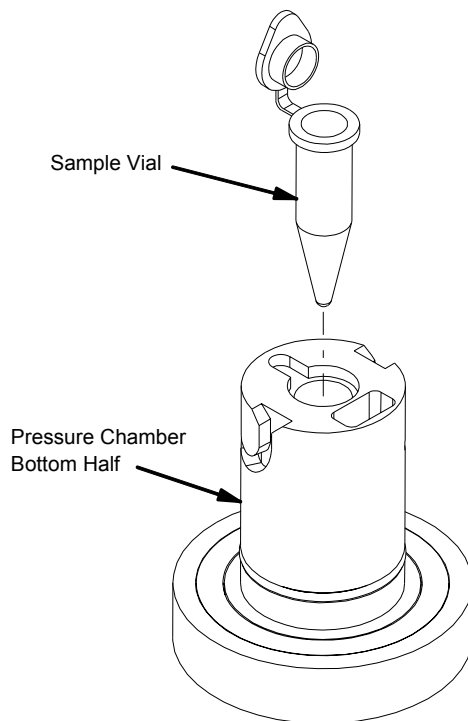
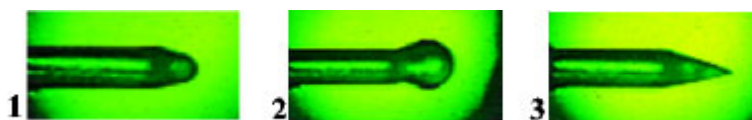

Figure 4-1
Figure 4-2
3. Insert and open the sample vial as shown in Figure 4-1. Use caution not to contaminate the sample.
the capillary tip, the high voltage can be adjusted to achieve different Electrospray operating modes. Four distinct modes (see Figure 4-2) can be observed through the viewing window or by the current LED display as the electric field is increased by increasing the high voltage: Dripping mode, Pulsating mode, Cone-Jet mode, and Corona Discharge mode. Figure 4-1 shows three photographs of the capillary tip viewed through the viewing window.
- **Dripping mode** (view 2 in Figure 4-2) occurs when a primary droplet builds up on the end of the capillary until it becomes large enough to be pulled away by the weak electric field. The current display is usually near zero in this mode. Inspection through the viewing window shows the primary droplet increasing in size until it is pulled away at a very low frequency. As the voltage is increased in this mode, the primary droplet size decreases.
- The **Cone-Jet mode** (view 3 in Figure 4-2) occurs when the electric field strength is balanced with the liquid properties. A visual inspection shows the conical shape of the profile (Taylor Cone), but the jet of primary droplets cannot be seen since the primary droplets are very small. As voltage is increased, the profile does not change significantly while in this mode; in addition, the total current reading changes very little. The cone-jet mode is the most stable and useful mode for generating aerosols. The voltage setting in this mode is typically 2.00 to 2.50 kV using a 20 mM ammonium acetate buffer solution.